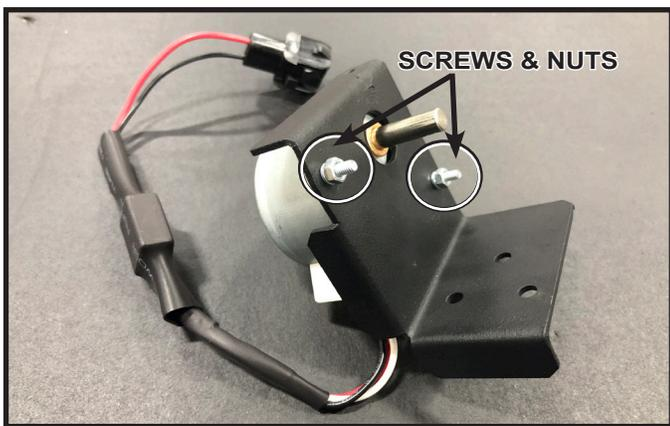

Figure 18
6. Remove two screws and two nuts that attach each motor to the motor brackets. See Figure 18.
8. Remove each motor until the electrical connector is visible. See Figure 18 and 19.
9. Disconnect the electrical connector to the motor. See Figure 18 and 19.